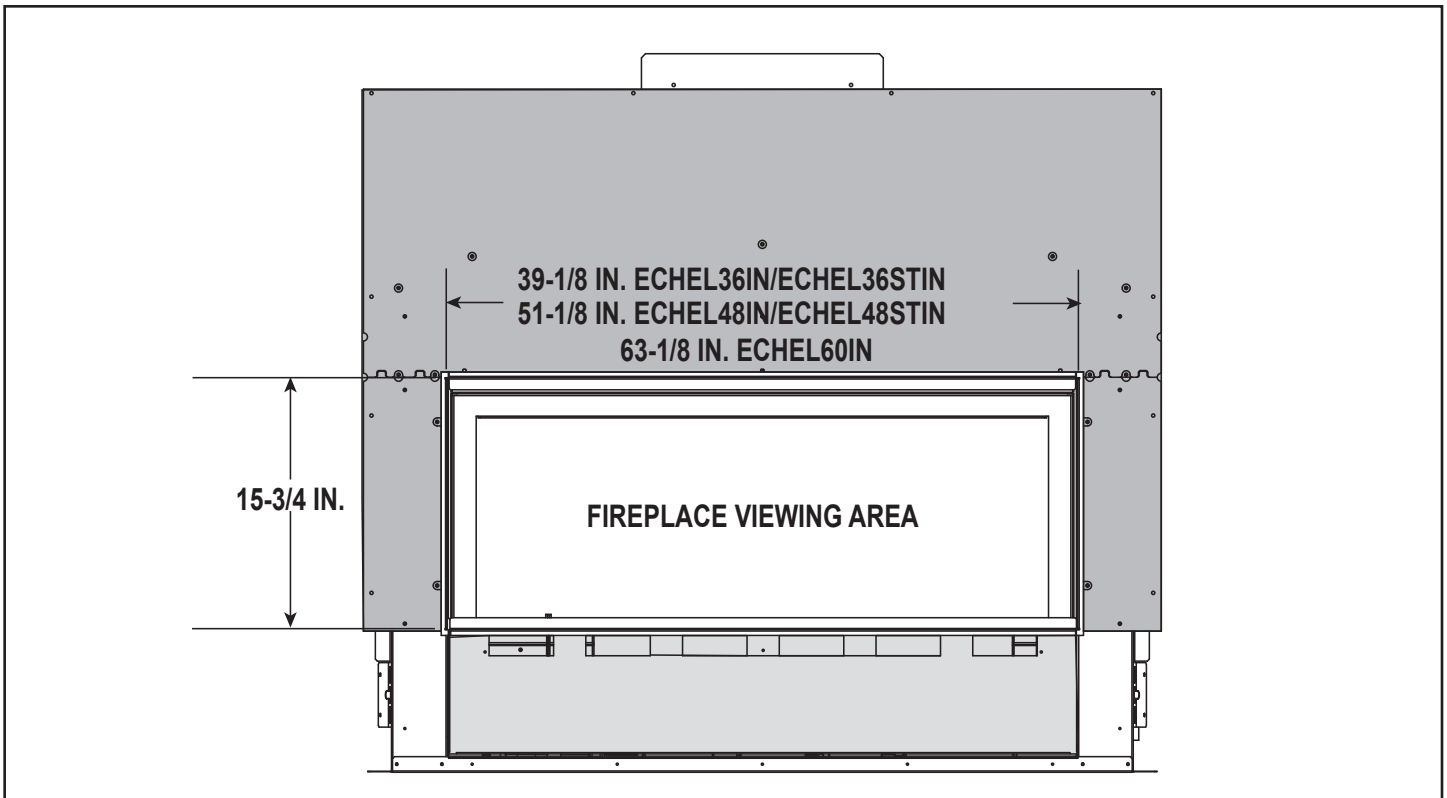

Figure 10.4 Minimum Finished Opening Dimensions - Clean Face Trim Front Method
2. The non-combustible finish material, 0-1 inch thick, should be installed up to the fireplace opening on all four sides, including the bottom access panel, covering the rectangular holes. Refer to Figure 10.4 for minimum finished opening dimensions.
2. The non-combustible finish material, 1-4 inches thick, should be installed up to the fireplace opening on all four sides, including the bottom access panel, covering the rectangular holes. Refer to Figure 10.4.